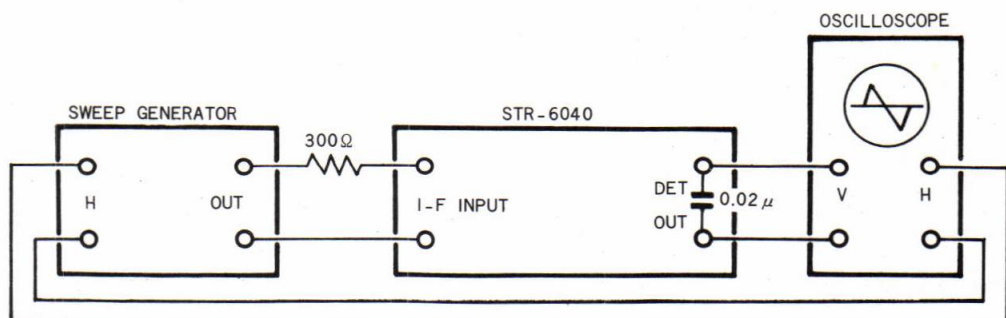

Fig. 3-2 Fm discriminator adjustment test set-up
- With the equipment connected as shown in Fig. 3-2, set the 10.7 MHz sweep generator controls as follows: